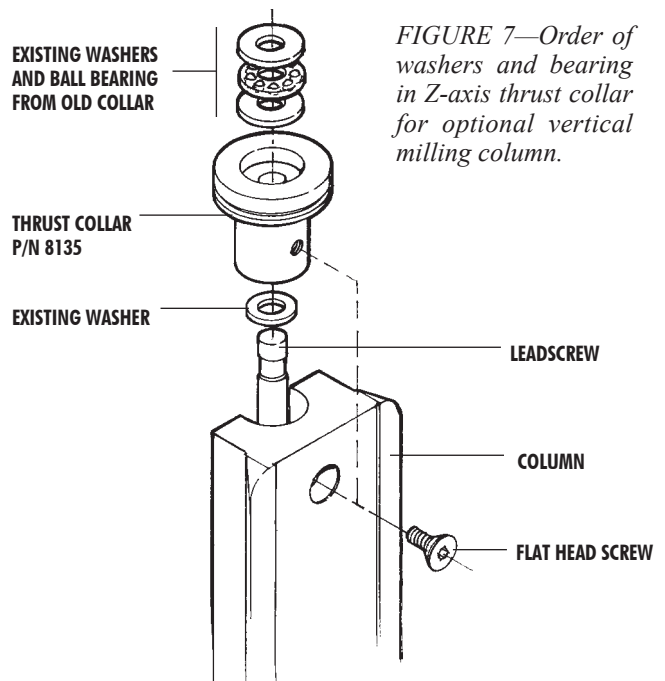

FIGURE 7—Order of washers and bearing in Z-axis thrust collar for optional vertical milling column.
If the spacer washer sticks to the bottom of it, remove it and reinstall it on the leadscrew shaft. Then remove the ball bearing thrust and two washers from the collar and reinstall them in the new Z-axis thrust collar in the same order. (See Figure 7.) Install the new collar on the leadscrew shaft and secure it to the bed with the flat head screw.
3. Locate the RPM sensor by holding it in the position shown in Figure 7. Mark the center of the hole on the plastic belt housing and drill a 1/16" hole. Fasten the sensor to the belt housing using the self-tapping screw provided. (Do not overtighten or you can strip the threads.) A plastic tie-wrap is provided to secure the sensor lead to the motor's power cord to keep it out of the way.